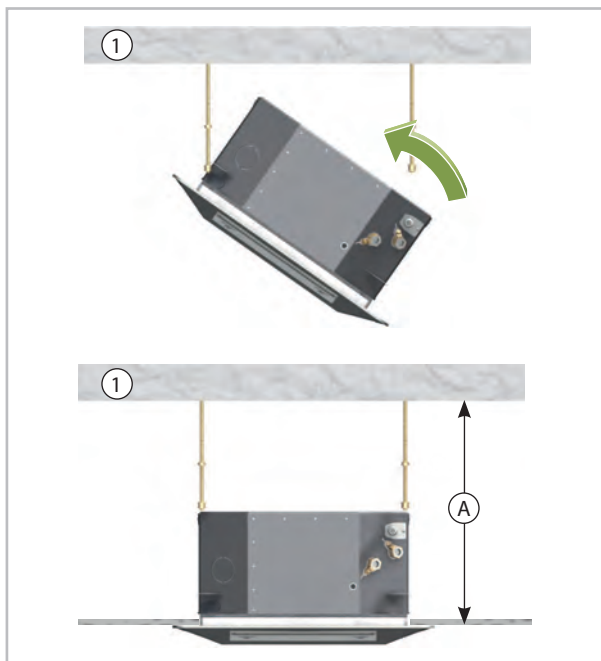

Fig. 26: Hooking in the unit
2. Fit the indoor unit onto the threaded rods and use the lower nuts to level the unit (Fig. 26).